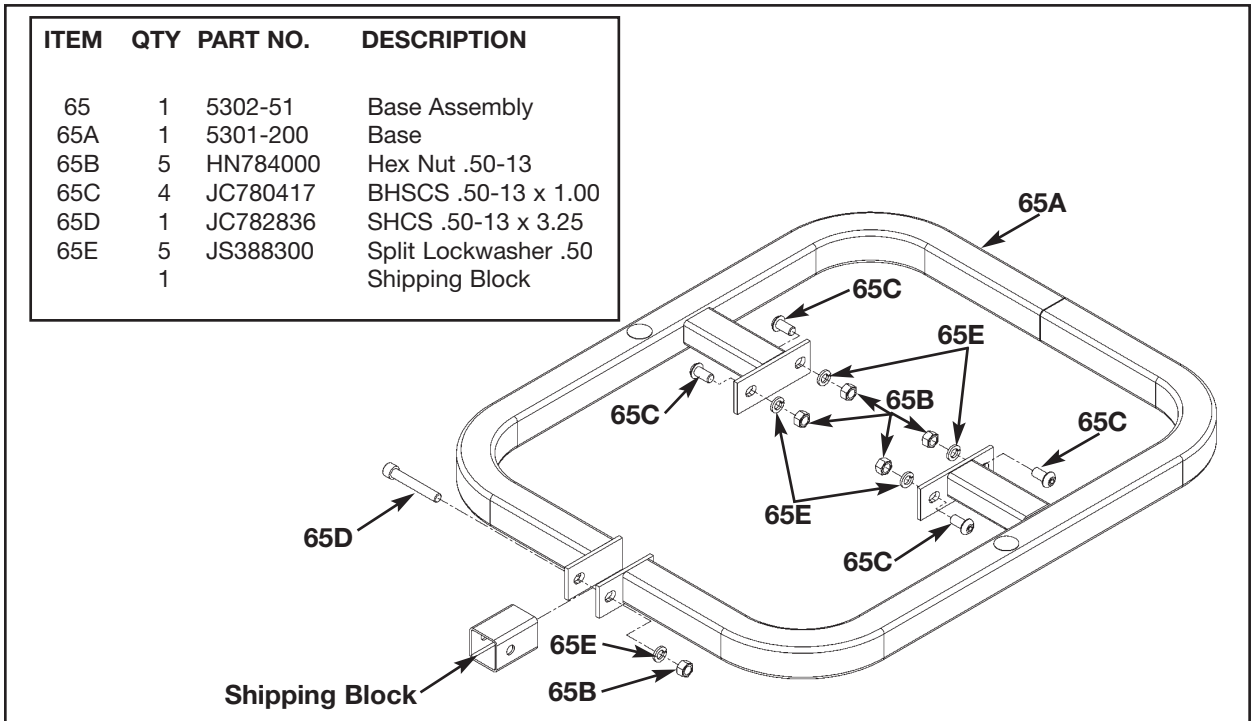

Figure 8
4. Attach column to the appropriate configuration (see steps 4A - 4F, Figures 8 and 9).
- B. Remove the hardware from the base (#65A) as shown in Figure 8.